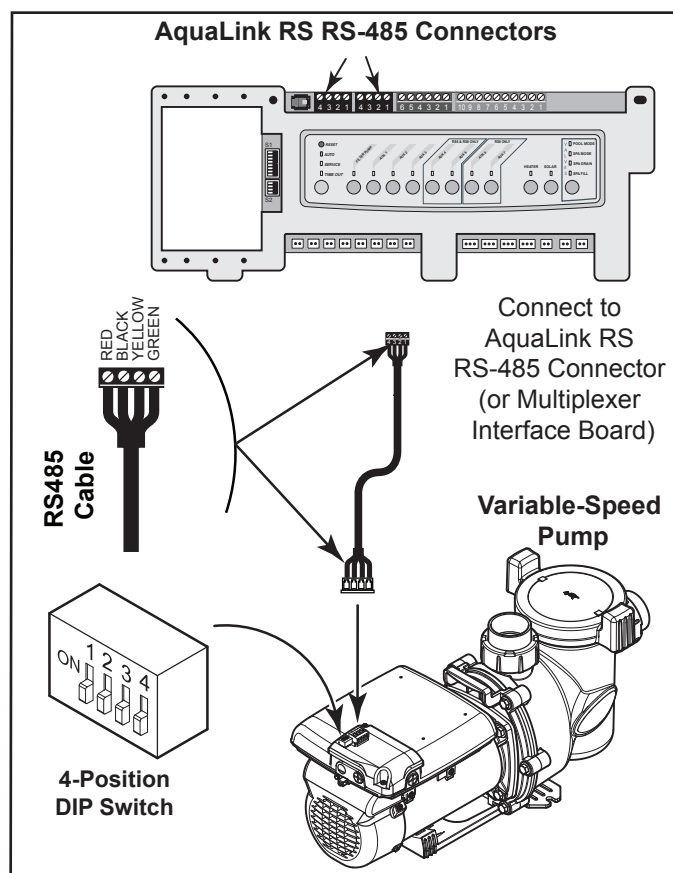

Figure 10. Wiring AquaLink RS Controller or AquaLink PDA to VS-FHP2.0
- For the VS-FHP2.0, slide dip switches 1 and 2 down to the OFF position. See Figure 10.
- Connect the other end of the cable to an RS-485 connector on the AquaLink® RS (or multiplexer interface board), matching wire colors with connector positions as follows: 1-red, 2-black, 3-yellow, and 4-green. See Figure 10 and read Section 3.3.